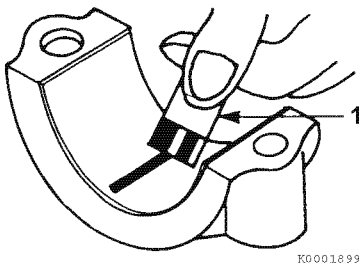

Figure 6-58
- Compare the width of the flattened PLASTIGAGE (Figure 6-58, (1)) to the graduation marks on the package. The mark that most closely matches the width of the flattened PLASTIGAGE will indicate the bearing oil clearance. Record the measurement. See *Crankshaft* on page 6-8 for clearance specifications.